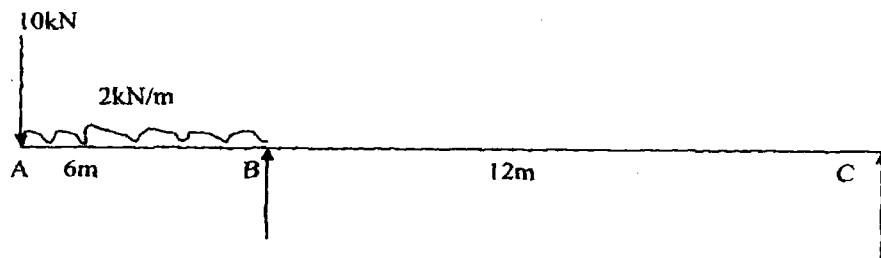

Fig. 14(a)
14. (a) Find the maximum downward and upward deflections for the beam shown below in Fig. 14(a). $EI = 40000 \text{ kNm}^2$.